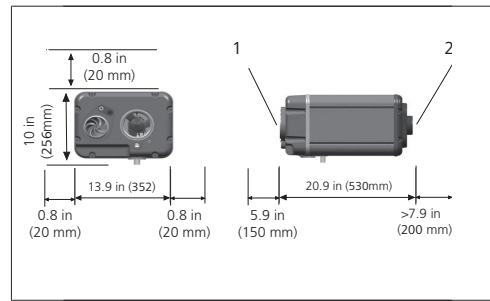

Fig. 3 Heater dimensions [mm]
- Make sure to have sufficient space at all sides of the heater. See Fig. 3.
- ▶ The minimum distances to the heater must be complied with. See also Fig. 3.